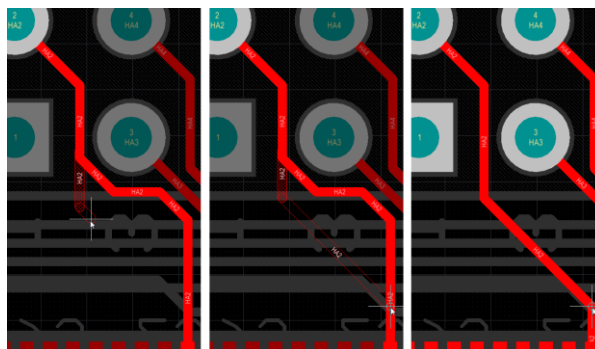

Figure 16. (a) Click on the existing routing, (b) then re-route to define a new path for connection HA2, (c) when you finish, the old loop is removed
38. To edit an existing route, select **Route » Interactive Routing**. The connection that you will modify is HA2 (Figure 16).
- b) Route down and diagonally across to meet HA2, above where it connects to U1 pad 191, as shown in Figure 16. When you meet the old route, the redundant segments are removed.